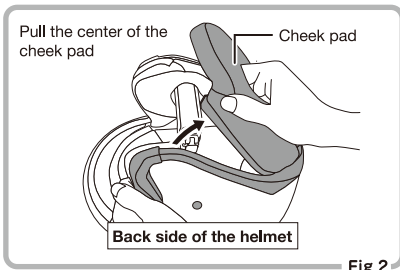

Fig.2
② Grip the center of the cheek pad firmly, and pull the pad to detach. (Fig.2)